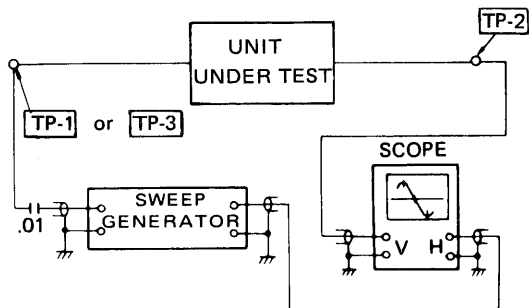

FIGURE 3. IF SECTION ALIGNMENT TEST EOPT. HOOK UP
Step 1: Connect instruments as shown in Figure 3.